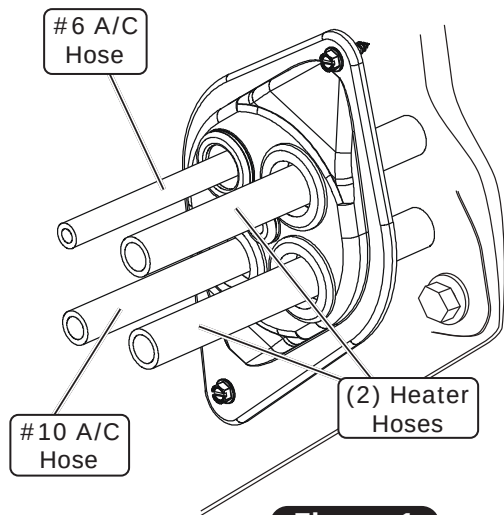

Figure 1
1. Route the A/C and heater hoses through the fresh air cap and kick panel cover as shown in Figure 1 and 1a, below.